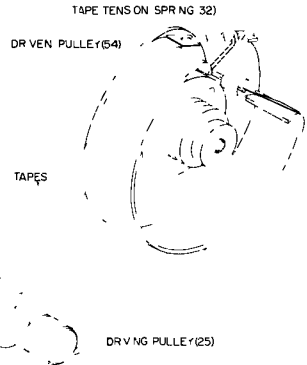

FIGURE 14 - Direct Action Units
6. Release two set screws (23) locking tape drum assembly (14) on output shaft assembly (16). Withdraw output shaft assembly (with cam attached) from upper cylinder housing assembly (12).
9. Lock tape drum assembly in place on output shaft with set screws (23). Make certain both set screws are correctly aligned with holes drilled in output shaft.
10. Wrap two outside tapes one turn around tape drum and attach to piston shaft with screws (24). Take care not to damage tapes.
11. Fasten center tape from drum assembly to bottom piston shaft using shoulder screw (13).
13. Mount drive pulley assembly on output shaft. Make certain that screws (23) are correctly aligned with holes drilled in output shaft before tightening set screws.
14 Direct Action Units Only Wrap tape with hole for spring twice around drive pulley and hook spring (32) into end of tape. Place other end of spring over tab provided on driven pulley as shown in Figure 14. Wrap remaining tape once around drive pulley in opposite direction. Slip end of tape over tab provided on driven pulley. Make certain that tapes are tight.